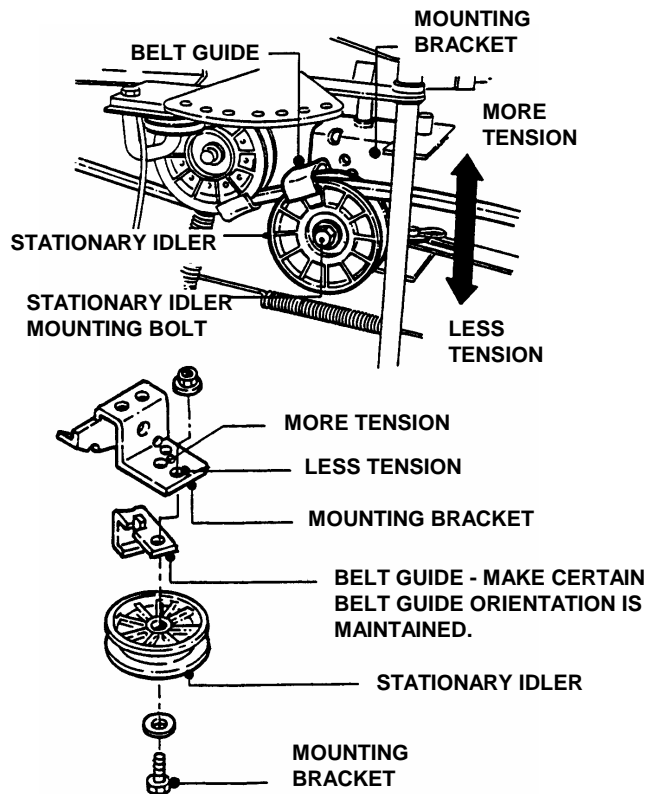

FIGURE 4.21
4. Remove the traction drive belt stationary idler mounting bolt. See Figure 4.21.
**NOTE:** Should less tension be required move stationary idler towards right side of tractor. See Figure 4.21.